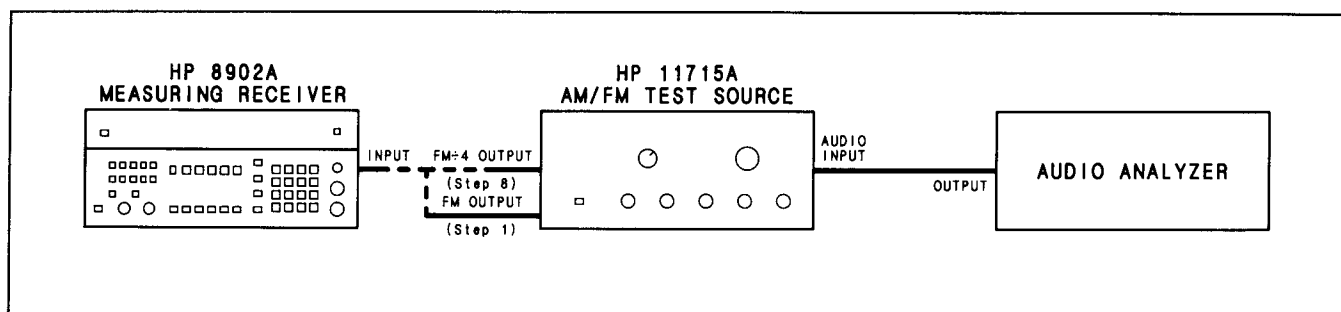

Figure 5-5. FM Distortion and Incidental AM—1.5 MHz Adjustment IF Test Setup
1. Connect the equipment as shown in Figure 5-5. (The AM/FM test source output can be connected either to a sensor module or directly to the Measuring Receiver's INPUT.)